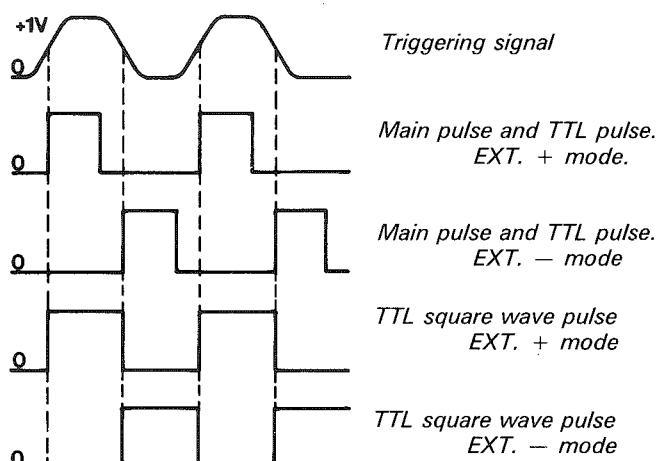

Fig. 6.7. External triggering.
- Observe output pulses having same repetition time as the triggering signal but a pulse duration as set with the DURATION controls. Fig. 6.7.
- Observe an output signal similar to fig. 6.7. Repetition time is the same as for the triggering signal, but pulse duration is set with DURATION control.
- Note that repetition time and duration are determined by the triggering signal. Refer to fig. 6.7.
- Select triggering at positive or negative slope of signal by setting switch REPETITION TIME to EXT+ or EXT-. Set duration to 10 μ s. Refer to fig. 6.7.